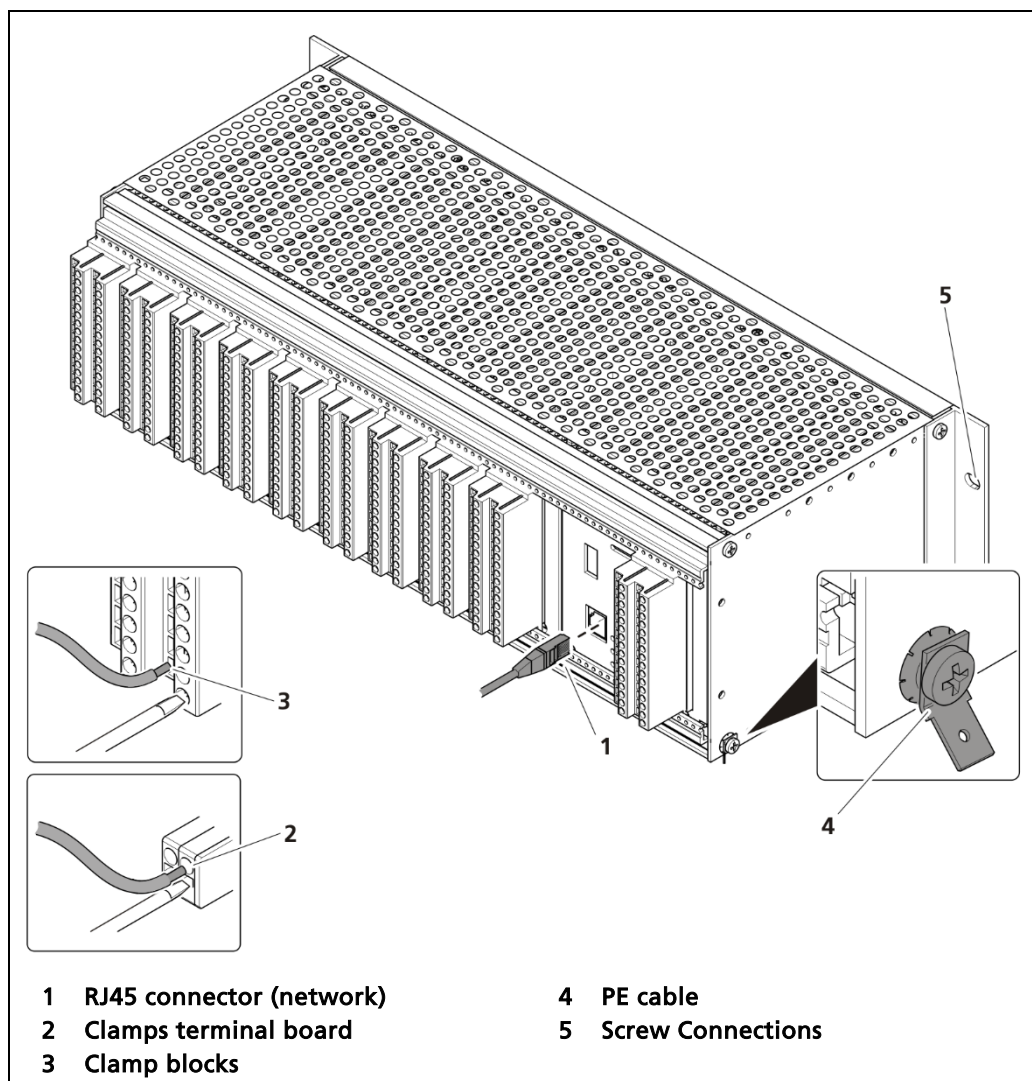

Fig. 153 Decommissioning 19" subrack
2. Remove the network plug (Fig. 153, item 1).
3. Remove all lines from the terminal board (Fig. 153, item 2) or the clamp blocks (Fig. 153, item 3).
4. Remove the PE cable (Fig. 153, item 4).
5. Remove the connections (Fig. 153, item 5) and pull the subrack from the 19" rack.